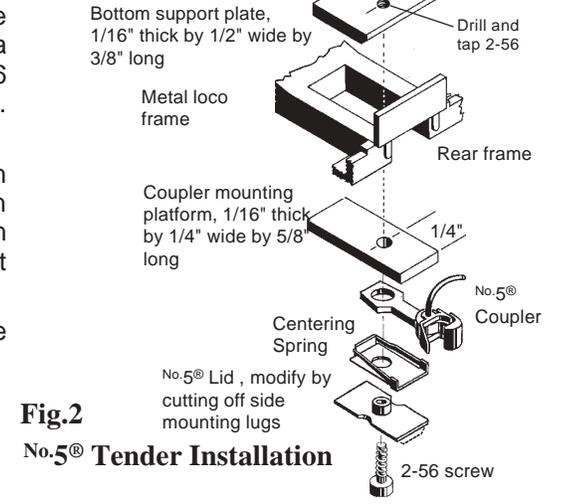

Fig.2
6. Make a coupler mounting platform from 1/16" thick styrene 1/4" wide by 5/8" long. Fit between frame and glue to bottom support plate with a plastic compatible cement. After cement has dried, drill and tap a 2-56 hole through both pieces on loco centerline 1/4" from end of pocket. See Fig. 2.